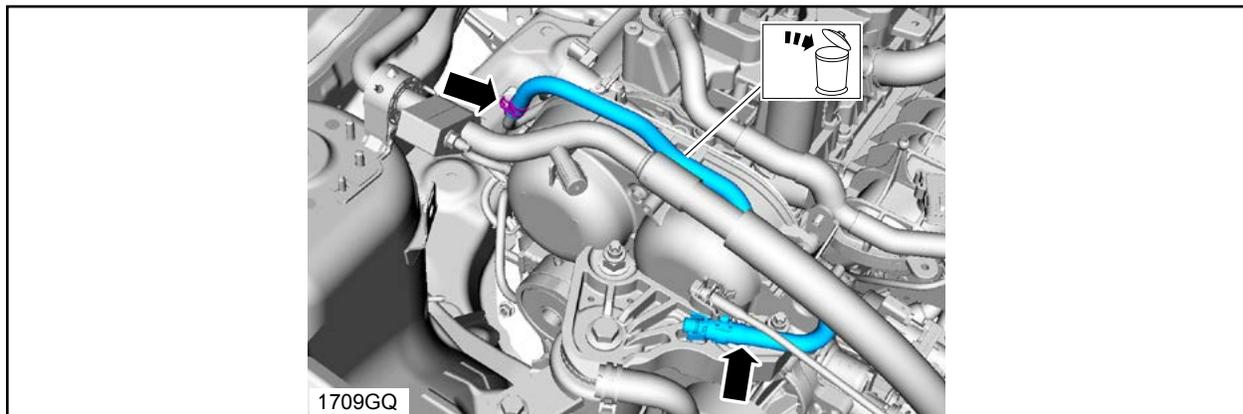

FIGURE I4
3. Remove and discard the turbocharger coolant return hose. See Figure I4.